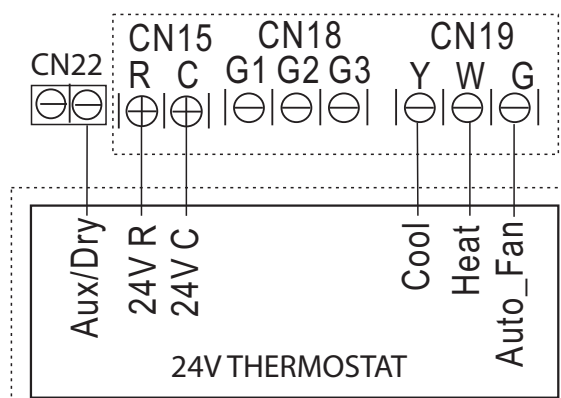

Fig. 64 — 24V Thermostat Wiring Diagram
1. Run the thermostat wiring from the thermostat to the 24V interface using connection R and C on CN15 and Y, W, G on CN19. see Fig. 64.